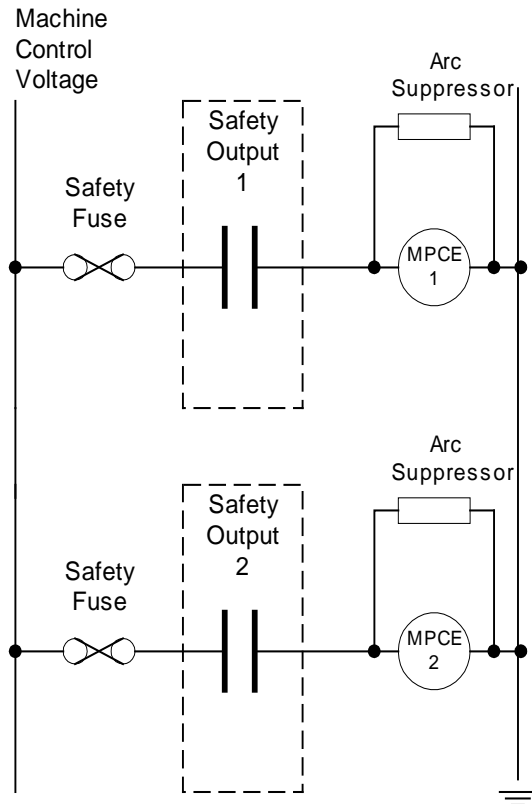

Figure 41 - Interfacing a Machine with Dual Identical MPCEs
- High risk machines - These should have 2 MPCEs. In some countries, it is customary for both MPCEs to operate in the same mode. In this case, each of the normally open (NO) outputs controls a single MPCE. See **Figure 41** for an illustration of the type of interface. Any additional output contacts can be used as a monitor, e.g. as an input to a PLC.